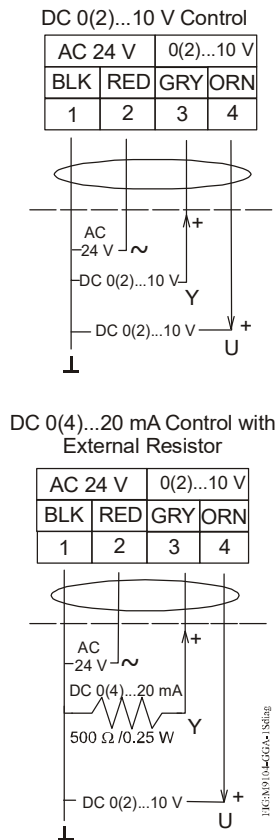

Figure 10: M9104-GGA-1S control wiring diagram
The M9104-GGA Series Electric Non-Spring Return valve actuators require AC 24 V power and a DC 0(2) to 10 V or DC 0(4) to 20 mA controller input signal. These electric actuators include an integrated 1.2 m (48 in.) long cable. See Figure 10 for proper wiring.